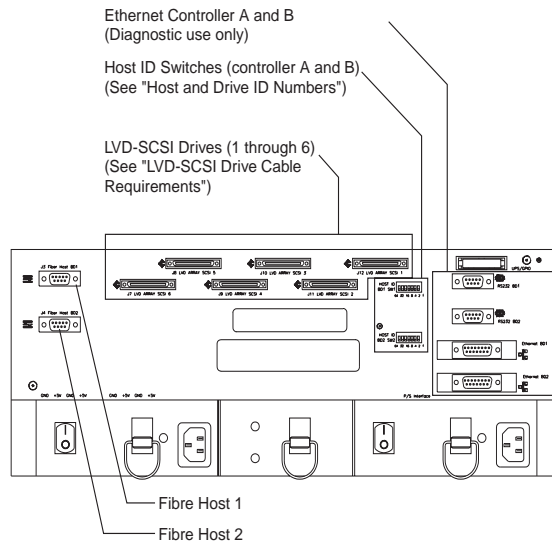

Figure 30. Interface Connections on Controller Unit
The host ID switches and connectors for interface cables are on the *connector plate* (Figure 30), located on the back of the controller unit.
- Host ID numbers set through hardware switches on the controller unit (Figure 30). There are five Host ID switches that allow you to set ID numbers 0 through 127 for each controller. The factory default settings are ID #5 for Controller A and ID #4 for controller B.